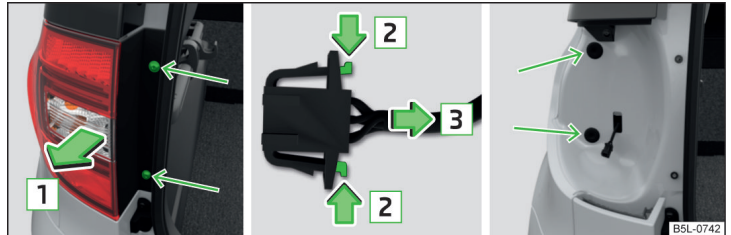

Fig. 212 Remove light / pull out connector
- › Use the screwdriver from the tool kit » page 182, *Vehicle tool kit* to unscrew the lamp » Fig. 212.
- › Grasp the light and carefully remove with shaky movements in the direction of arrow **1** » Fig. 212.
- › Insert the light into the mounts in the body » Fig. 212.
- › Screw the light with the screws into place » Fig. 212.